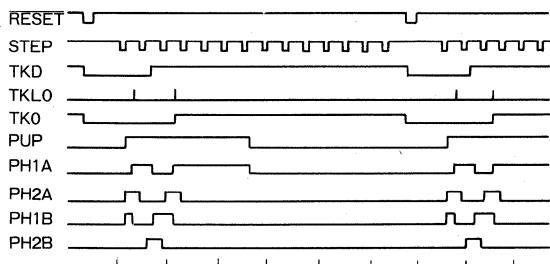

Fig.35
(16) MODE (2) (Table23~25, Fig.35参照)